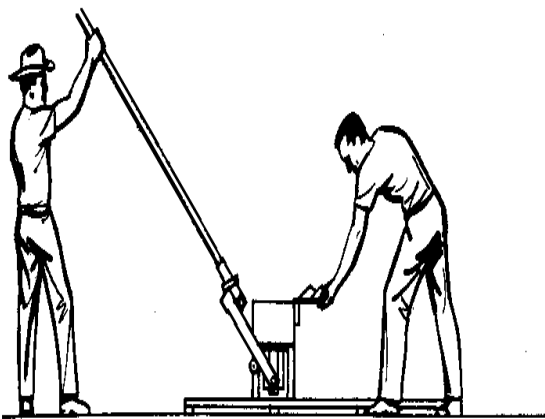

Fig. 11 - Returning the Lever to Rest
(11) Open the cover (see Fig. 11).